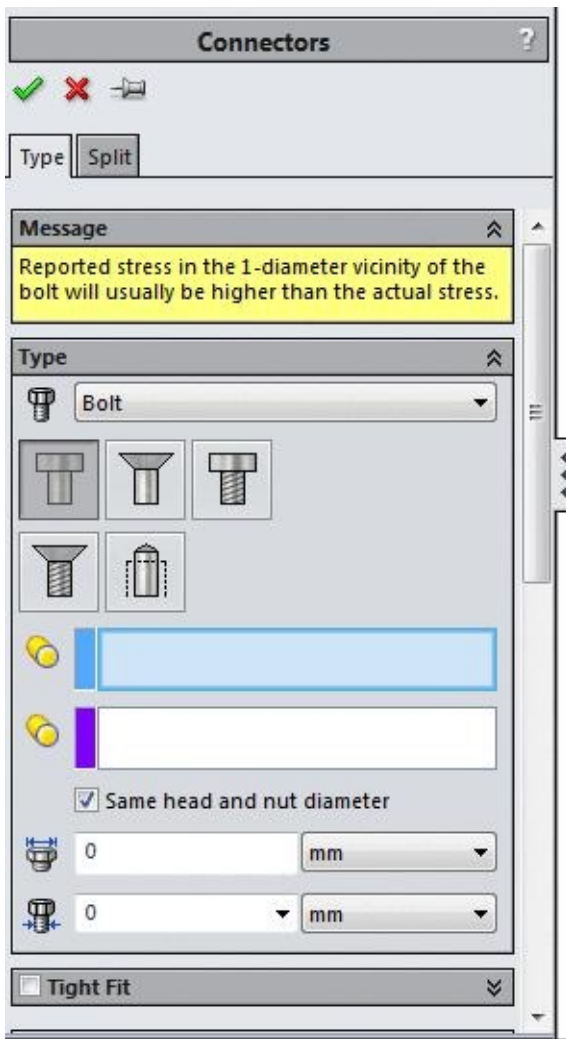

Figure-74. Connectors PropertyManager with Bolt option
- If the bolt are not taken from the **Toolbox** or you select the **No** button from the **Simulation** dialog box then the **Connectors PropertyManager** will display with the options related bolt connection; refer to Figure-74.